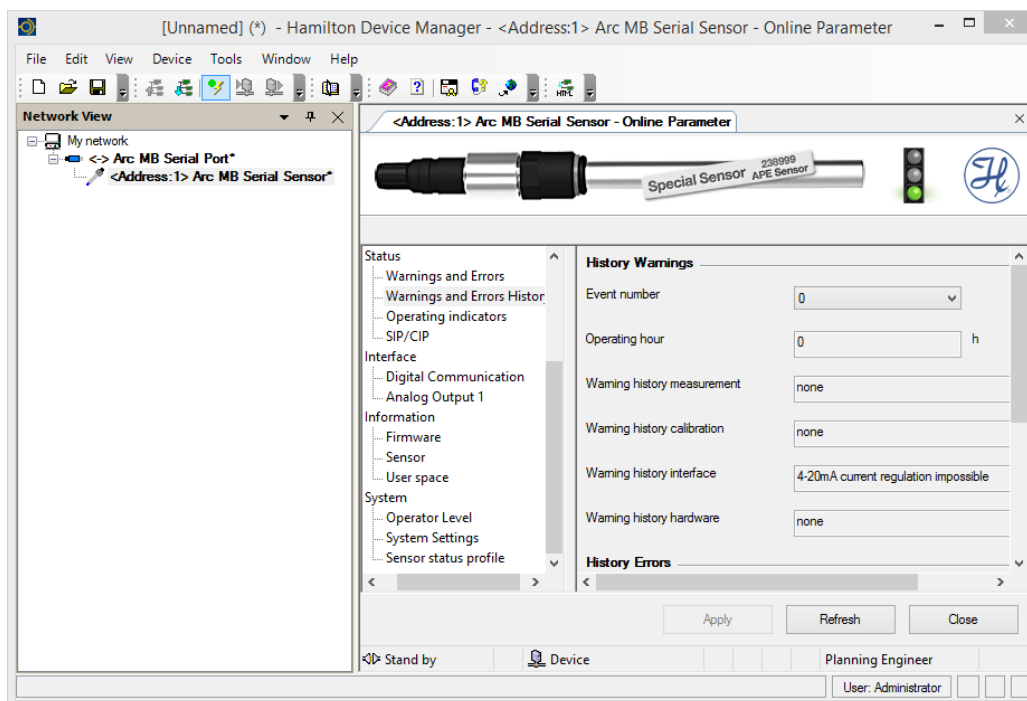

Figure 10 - HDM window showing the AM-LDO sensor. The sensor and the port are both live as indicated by the bold font in the list view on the left.
12. Double click on the **<Address 1> Arc MB Serial Sensor** and you will see the window shown in Figure 10.
Note the traffic light in the upper right corner in Figure 10. The green light means everything is okay. A yellow light means that a sensor warning has been activated and a red light means that a sensor error has been activated.